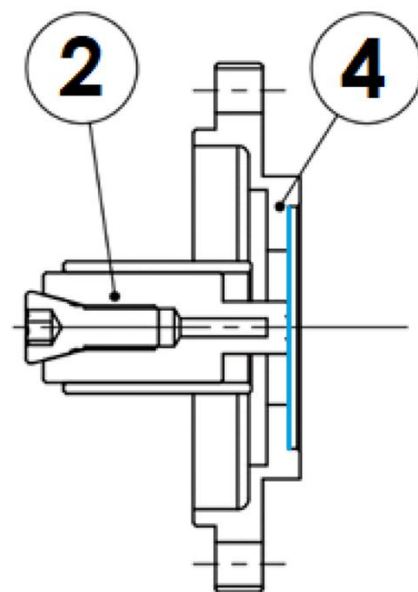

Figure 4: Magnet alignment
5. Align the encoder magnet set (2) to the sensor mounting flange (see Figure 4, highlighted in blue) of the encoder bracket (4).